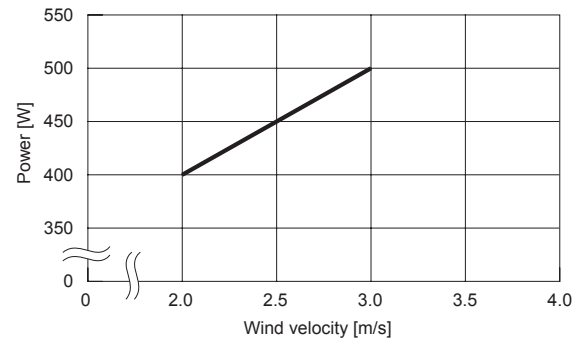

Fig.3.5 The maximum output power by wind speed conditions
*Maximum power with Forced air (Fig.3.5)